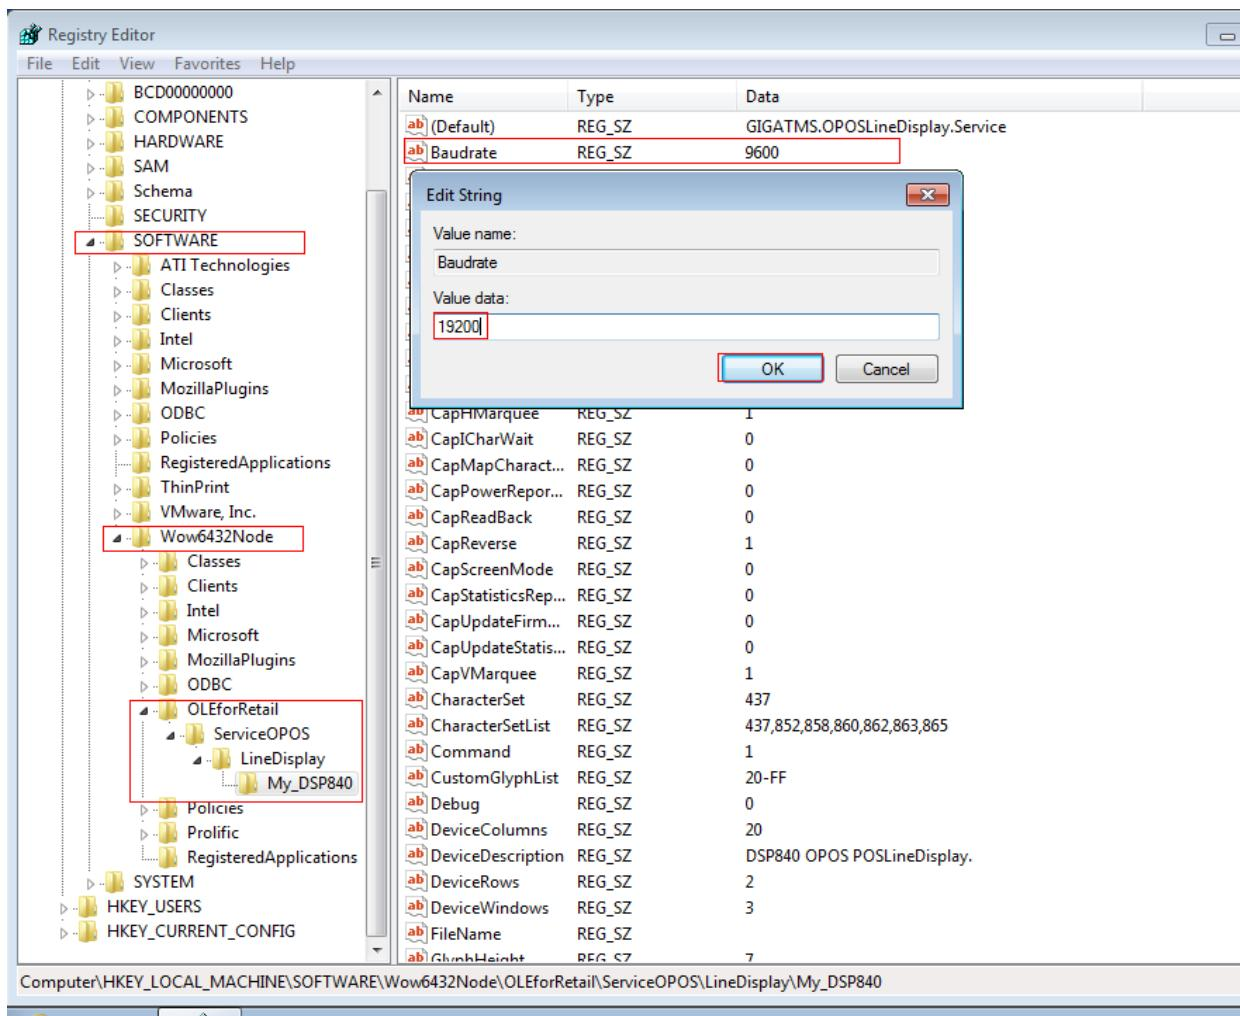

Figure 5-5. Windows 7 registry path:
2. Select the DSP840 OPOSLinedisplay register area, see figure 5-5.
3. Select the baud rate property double click, input value is 19200, press OK button, see figure 5-5.